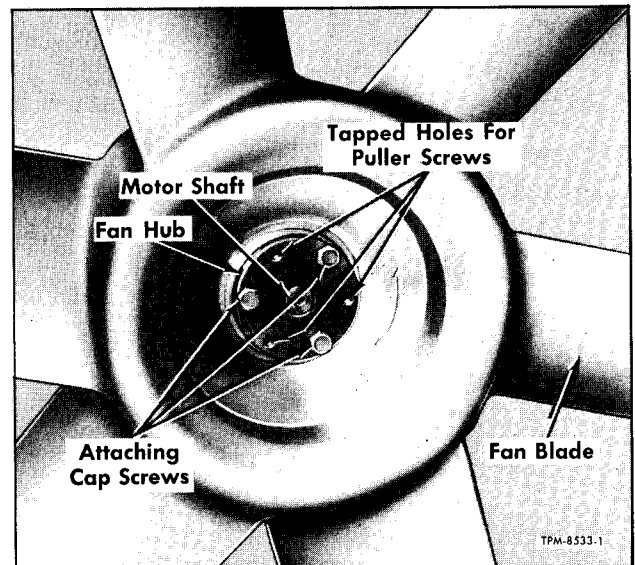

Figure 16—Condenser Fan Blade Installation
2. Loosen three cap screws which secure fan blade to fan hub (fig. 16). Screws should be loosened to relieve clamping effect of fan hub on motor shaft.
3. Install three long puller screws in tapped holes of fan hub shown in figure 16, then tighten screws evenly to separate fan from hub and to force from motor shaft. Remove hub and fan blade.